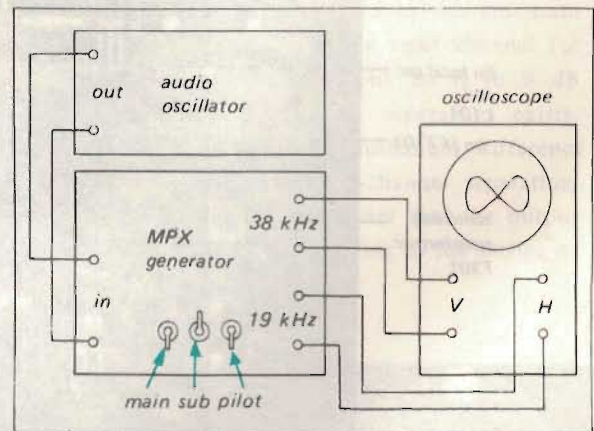

Fig. 3-11 Test setup for the MPX generator preadjustment
- (1) With the equipment connected as shown in Fig. 3-11, set the MPX and audio oscillator's controls as follows: